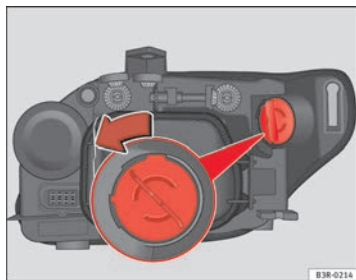

Fig. 203 DRL light
- Turn the bulb holder anti-clockwise, pulling it by the grip ⇒ fig. 203 and removing the bulb holder and the bulb.